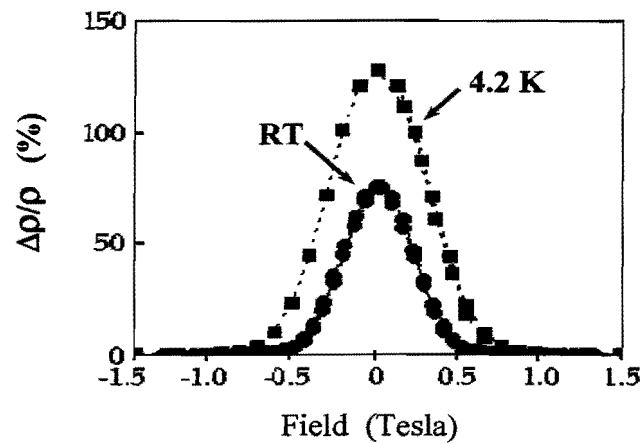

Fig. 3
- (b) Explain the performance of a GMR unit, based on the experimental results shown in Fig. 3. Explain why $\Delta\rho/\rho$ can be greater than 100%. [40%]